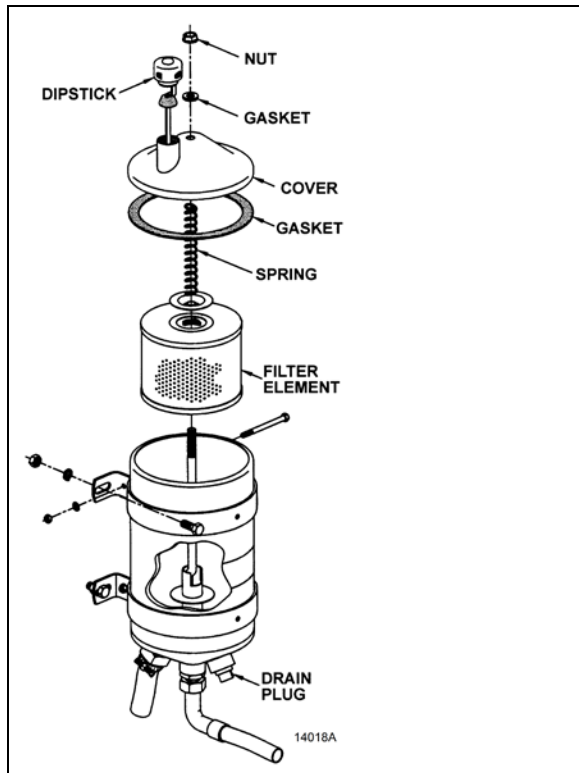

FIGURE 26: POWER STEERING FLUID RESERVOIR
3. Insert dipstick in reservoir. Remove it again to check fluid level (Figure 26).